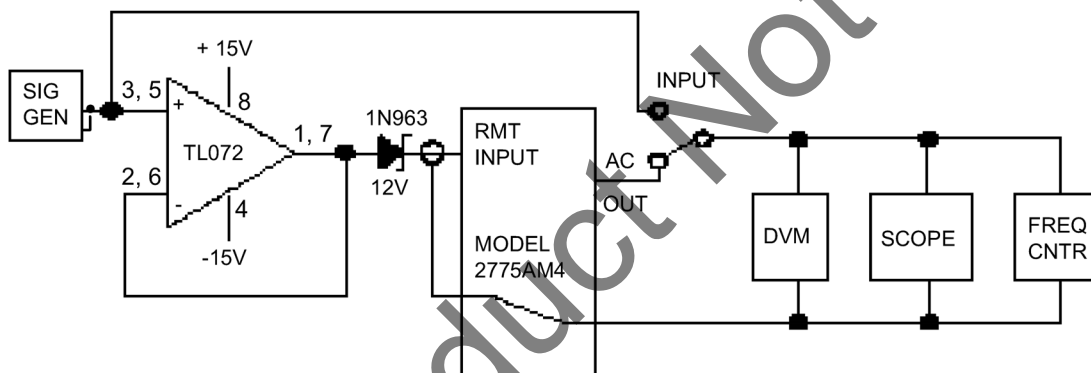

FIGURE 5-11: REMOTE GAIN
- B. The high frequency roll off is determined by the full scale range selected in combination with the multiplier and sensor. Set the AC OUTPUT to 1.00 Vrms at 1kHz for the reference frequency point. Increase the frequency until the AC OUTPUT drops to the -5% point and record the frequency, next increase the frequency until the AC OUTPUT drops to the -30% (-3dB) point and record the frequency. Readjust the AC OUTPUT reference to 1.00Vrms at 1kHz for each full scale range. The frequency recorded should be greater than the frequency listed for each full scale range. (See Figure 5-11 for Setup.)
Set the FUNCTION switch to OUT CAL and the FULL SCALE switch to 3K. Measure the ac amplitude at U17 pin 7 and adjust the AC ADJ for exactly this ac reading times 0.9852 at the AC OUT. Set the FUNCTION switch to OP and set the back panel MODE switch to RMT and connect a 1 KHz sine signal through the current blocking circuit (Figure 5-11) to the REMOTE INPUT (J4). Set the MUTIPLIER switch to 1 and set the FULL SCALE switch per the following table:
The high frequency roll off is determined by the full scale range selected in combination with the multiplier. Set the AC OUTPUT to 1.00 V rms at 1 KHz for the reference frequency point. By adjusting the input source increase the frequency until the AC OUTPUT drops to the -5% point and record the frequency, next increase the frequency until the AC OUTPUT drops to the - 30% (-3dB) point and record the frequency. Readjust the input source until the AC OUTPUT reference is 1.00 Vrms at 1 KHz for each full scale range. The frequency recorded should be greater than the frequency listed for each full scale range (Figure 5-11).